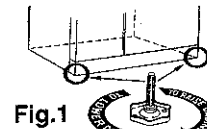

Fig. 1
• Refrigerator models that have four wheels and a leveling screw beneath each front corner at the base of the cabinet can be adjusted by turning in or out as required (see Fig. 1).